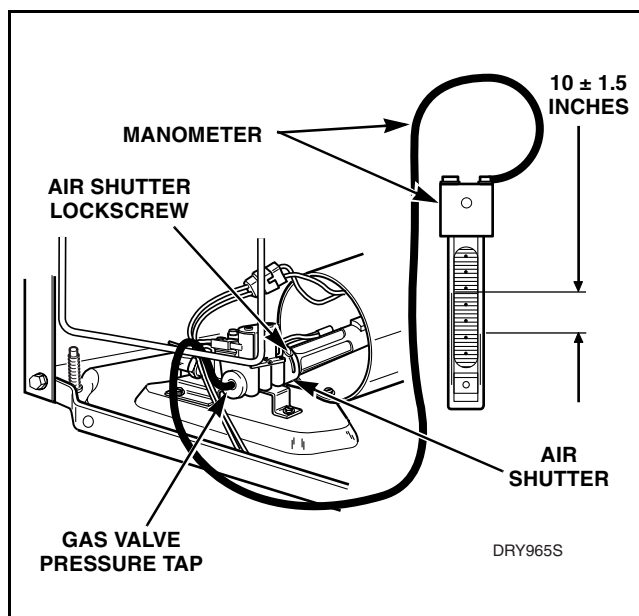

Figure 43
- (2) Connect a "U" tube manometer (or similar pressure gauge) to the pressure tap. Refer to *Figure 43*.
- (3) Start dryer. Pressure should be 10 ± 1.5 inches. Refer to *Figure 43*.
- (1) Loosen air shutter lock screw.
- (2) Turn air shutter to the right or left as necessary to obtain proper flame intensity. Refer to *Figure 43*.
- (3) After air shutter is adjusted for proper flame, tighten air shutter lock screw securely.